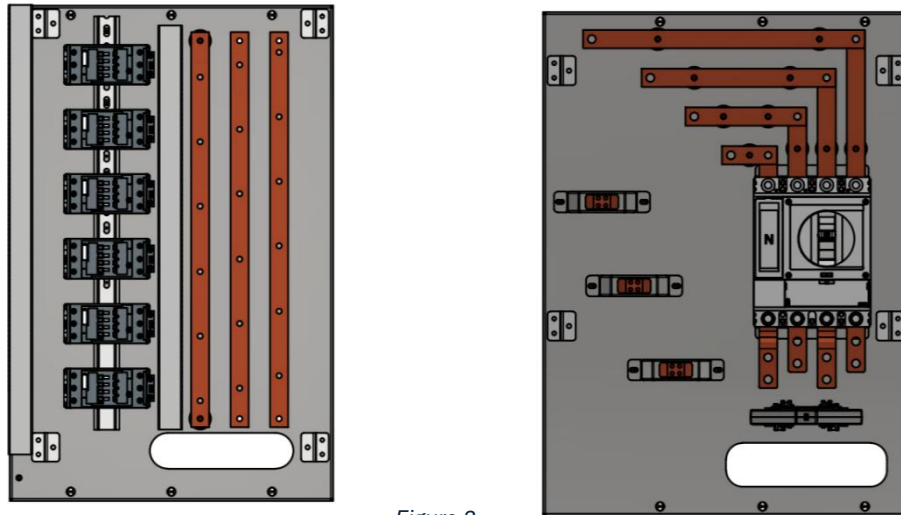

Figure 2
- Check wire routing and connection of Input busbar, MCCB and AC Contactor as per Figure 2